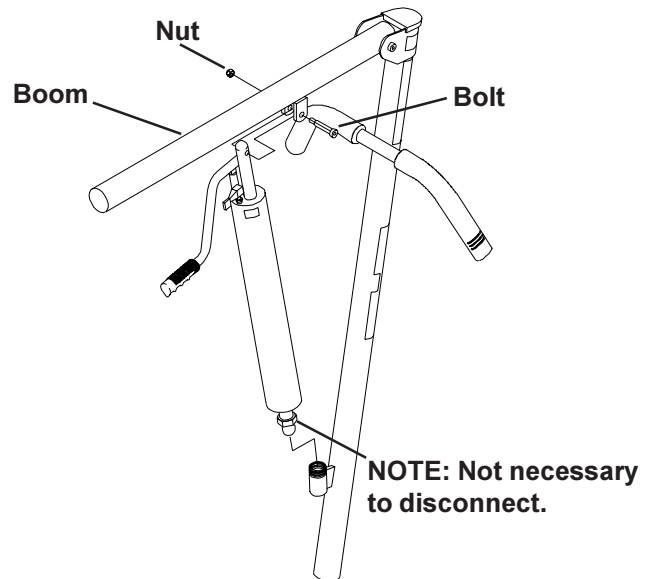

FIGURE 2 - PUMP- BOOM DISCONNECT
Pump Removal (FIGURE 2)
1. Using the nut and bolt provided, assemble the pump to the new boom. **Refer to FIGURE 2.**